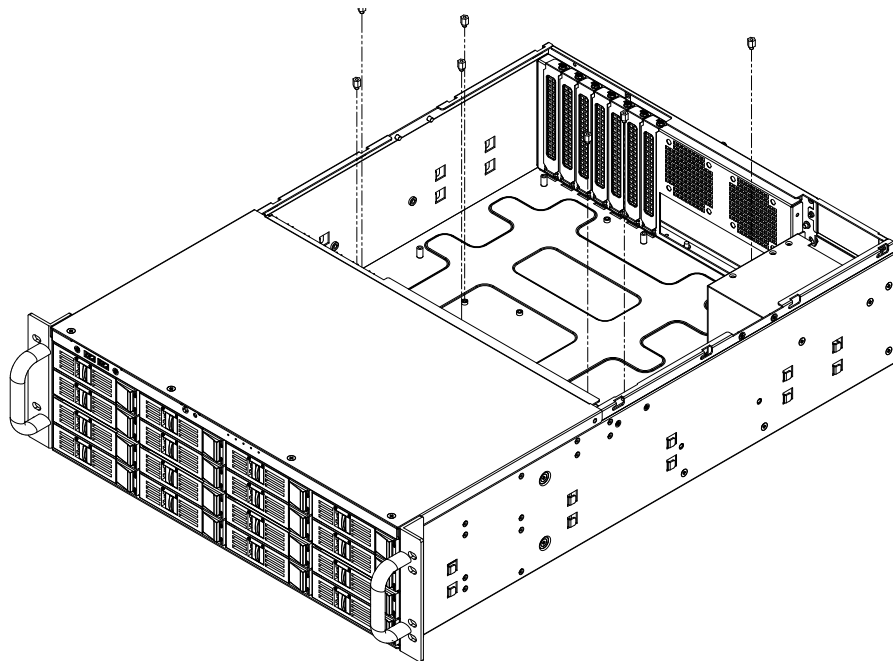

Figure 2.3 Fastening the stub copper/ 固定铜柱 / 固定銅柱
1. A yellow label is located inside of the chassis bottom. (see Figure 2.2) It shows the stub copper location for attaching the specific EATX/ATX/MicroATX motherboard. Users can find the stub copper in the accessory box (see Figure 2.3). Lock the stub cooper into the correct location and then rotate counterclockwise to fasten it onto the chassis.
1. 在机箱底部有一个黄色贴纸（如图 2.2 所示）。此贴纸标示了用于安装特定 EATX/ATX/MicroATX 母板的铜柱的位置。用户可以在附件盒里找到铜柱（如图 2.3 所示）。将铜柱锁入相应的位置，然后沿逆时针方向旋转将它固定在机箱上。